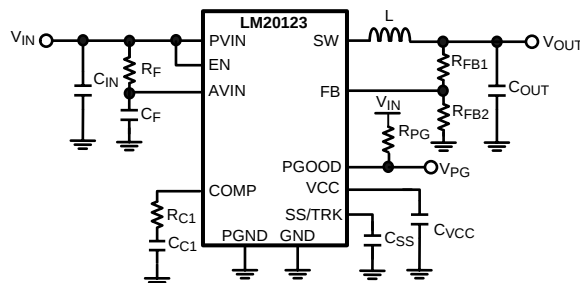

Figure 25. Typical Application Circuit
This section walks the designer through the steps necessary to select the external components to build a fully functional power supply. As with any DC-DC converter numerous trade-offs are possible to optimize the design for efficiency, size, or performance. These will be taken into account and highlighted throughout this discussion. To facilitate component selection discussions the circuit shown in Figure 25 below may be used as a reference. Unless otherwise indicated all formulas assume units of amps (A) for current, farads (F) for capacitance, henries (H) for inductance and volts (V) for voltages.
To prevent high frequency noise spikes from disturbing the sensitive analog circuitry connected to the AVIN and AGND pins, a high frequency RC filter is required between PVIN and AVIN. These components are shown in Figure 25, as C_F and R_F . The required value for R_F is 1Ω. C_F must be used. Recommended value of C_F is 1.0 μF. The filter capacitor, C_F should be placed as close to the IC as possible with a direct connection from AVIN to AGND. A good quality X5R or X7R ceramic capacitor should be used for C_F .